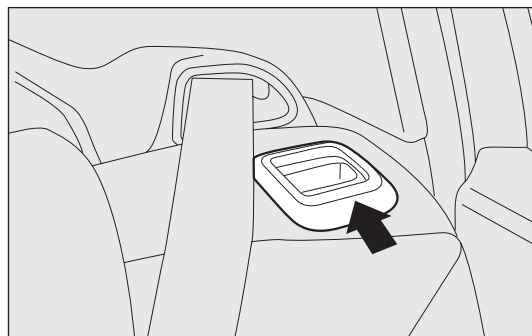

fig. 108
**IMPORTANT** When the red band next to the backrest folding levers fig. 108 disappears, it means the backrest is properly secured.